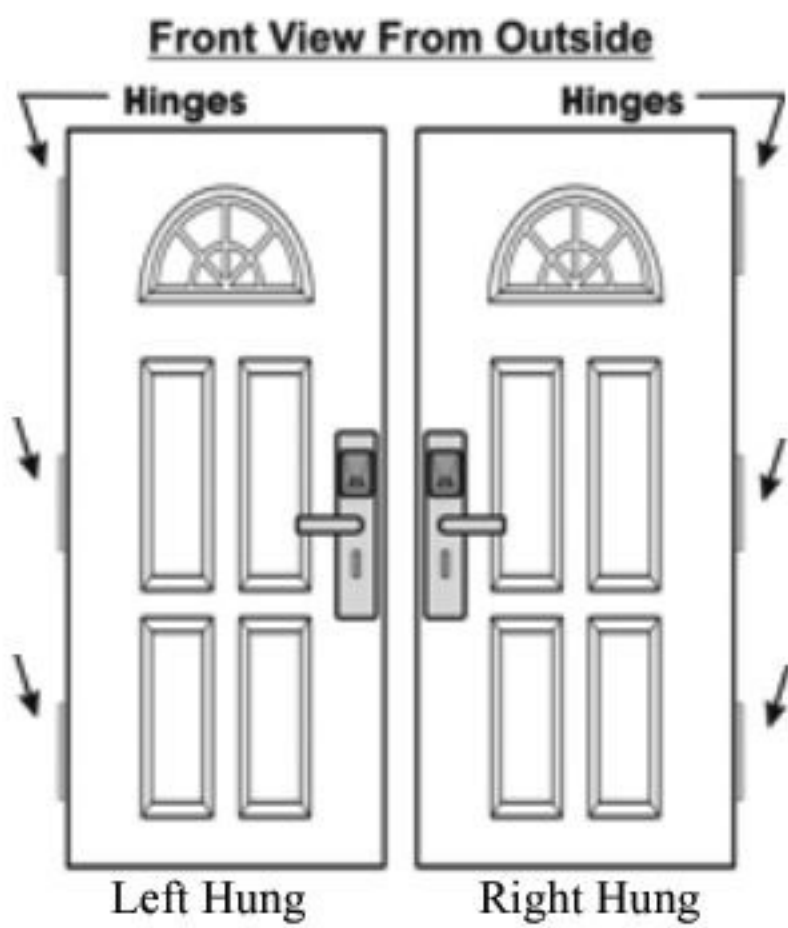
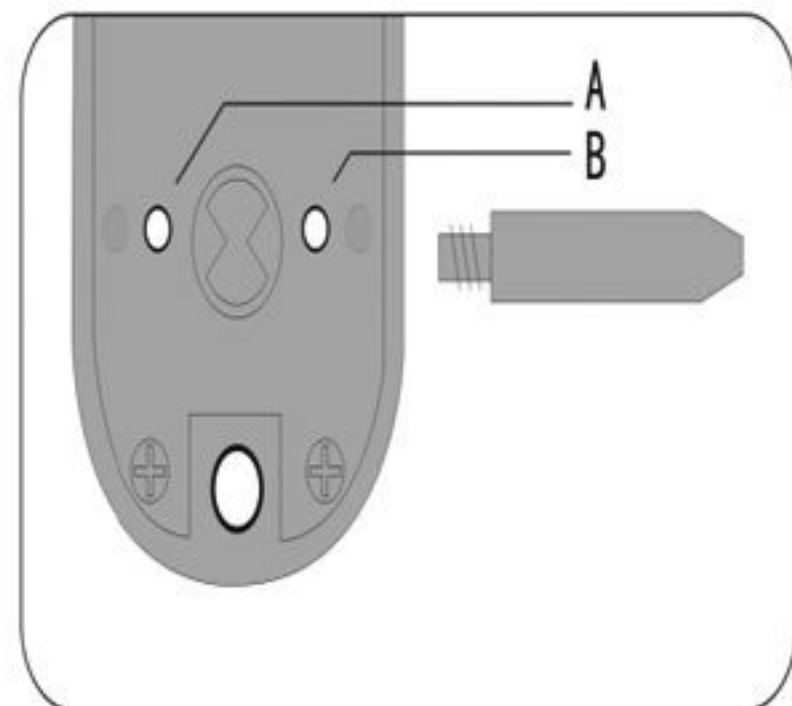

Figure 4
Figure 5
- Determine if your door is Left or Right hung by referring to Figure 4. Referring to Figure 5, screw in Part 12 (Support post) into Hole A if door is Right hung or Hole B if door is Left hung.